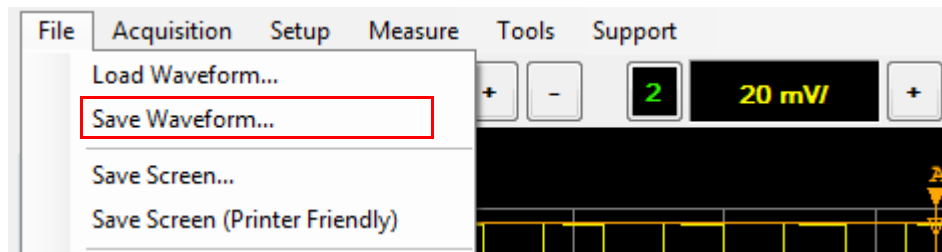

Figure 2-46 Save Waveform... selection in the File menu
- 1 Select **File > Save Waveform...** on the toolbar to save the current 8990B waveform data as a *.csv file as shown in Figure 2-46.